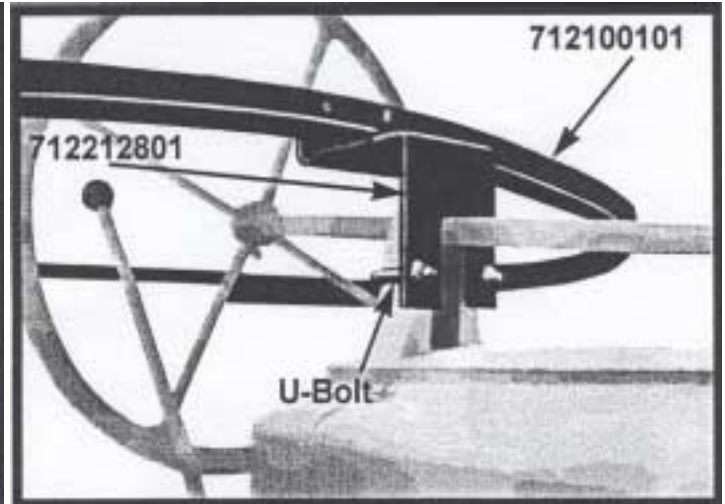

Figure 2
**Model 70, 720 place Mount Bracket on front side of steering column support. See Figure 2**